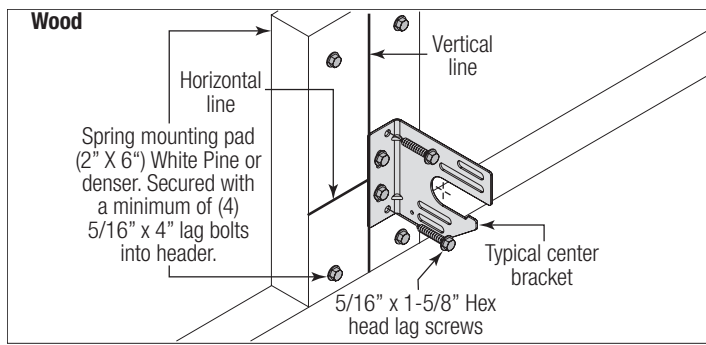
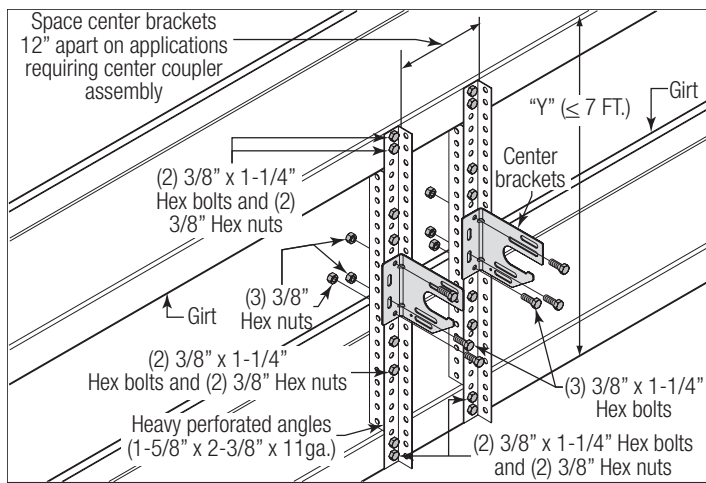

Figure 55
Figure 61
**NOTE:** If your door came with (4) springs or more springs, each of the outer springs mounting surface will need to be a minimum of 3" wide.
**See Figure 55 through Figure 61 for the following steps.**